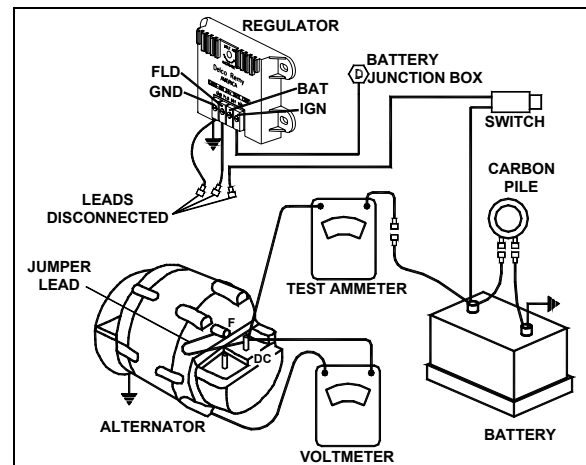

FIGURE 33: REGULATOR VOLTAGE TEST (UNDERCHARGED BATTERY) 06417
6. See Figure 33 for wiring connections.
- B) By removing any retaining screws involved and unsoldering the connections. When resoldering, limit solder time to a minimum as excessive heat may damage the printed circuit board and component parts. However good soldered connections are essential for satisfactory operation. A resin core 63% tin 37% lead solder with a 360 °F (182°C) melting point is recommended along with a soldering iron rated at 50 watts or less. Use extreme care to avoid overheating. Before checking the printed circuit board, remove transistor TR1, which must be checked separately. Connect the ohmmeter as shown in Figure 33, and then reverse the ohmmeter leads to obtain two readings on the same component. Use the middle scale on scale-type meters on which the 300 ohm value should be within, or nearly within, the middle third of scale.